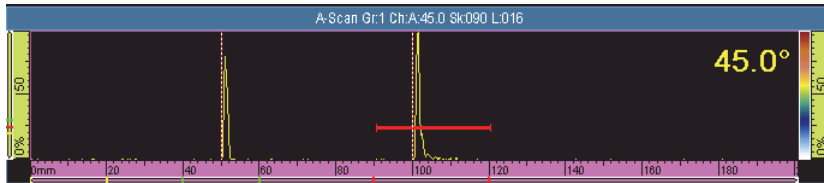

Figure 5-4 Setting the gate on the second signal
- a) In the **Start** and **Width** parameters, enter values to set gate A on the second signal, according to the same method used for the first signal (see Figure 5-4 on page 116).